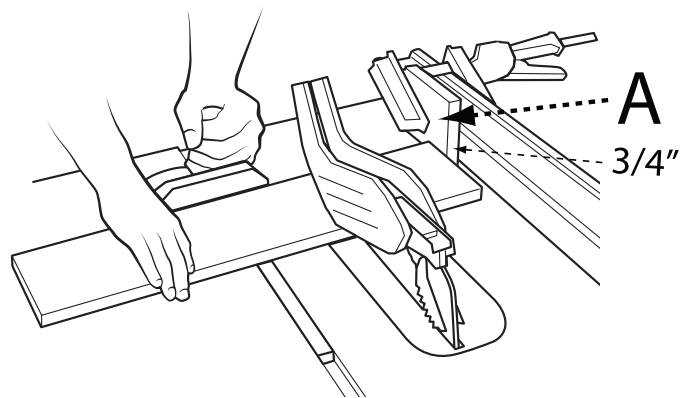

FIGURE 23
When crosscutting a number of pieces to the same length, you can clamp a block of wood (A) (as shown in Figure 23) to the fence and use it as a cut-off gauge. The block (A) must be at least 3/4-inch (19 mm) thick to prevent the cut off piece from binding between the blade and the fence. Once the cut-off length is determined, lock the fence and use the miter gauge to feed the workpiece into the blade.